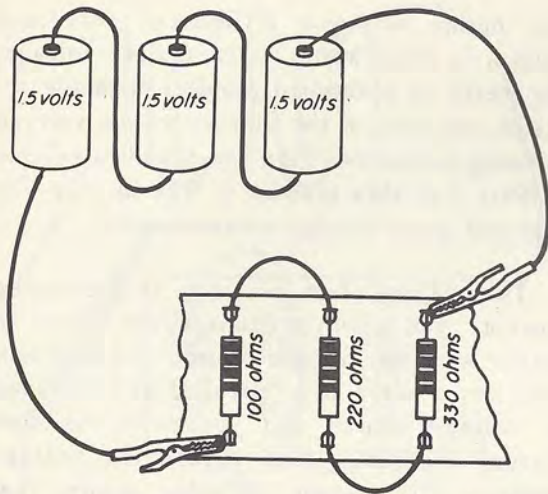

Fig. 7-15
Step 2. Clip the negative lead of the 4.5-volt battery to the free end of the 100-ohm resistor. Clip the positive terminal to the free end of the 330-ohm resistor, as shown in Fig. 7-15.